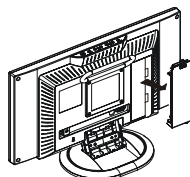

Figure 1-2
1. To remove the tuner cover. (See figure 1-2)